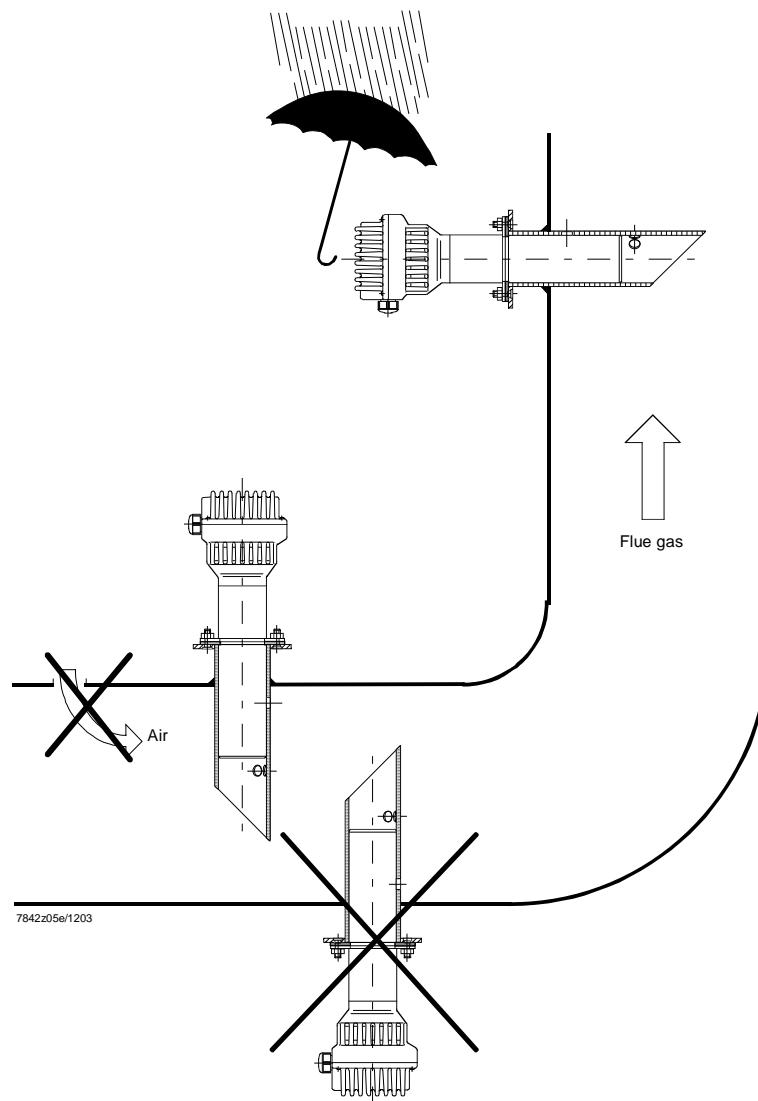

Figure 7: Mounting position of QGO20...
1. Collection of flue gases and passing them to the sensor (Figure 7), adapting the sensor to the chimney.
To reduce the response time in the case of low flow rate, the AGO20... can also be mounted in an inclined position (Figure 7).
| Figure 7: Mounting position of QGO20..... | 17 |